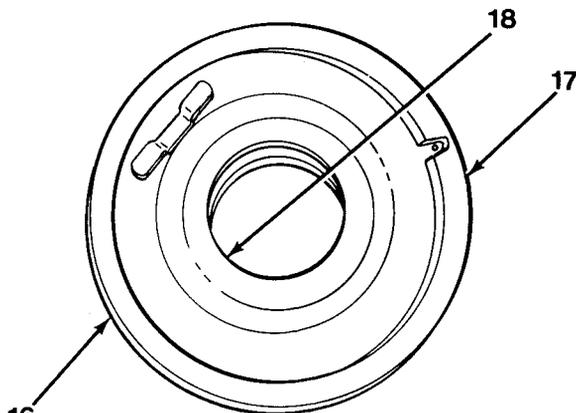

Figure 11-8
17. Install O-ring (18) and outer piston seal (17) to clutch piston (16, Figure 11-8).